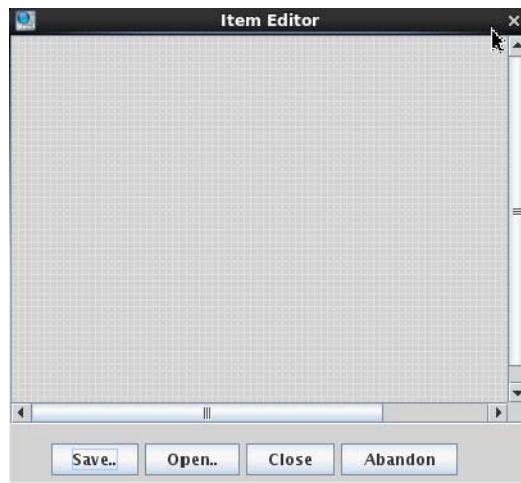

Figure 12 Item Editor window
- 3 In the Panel Editor window, click **Edit Items**. The Item Editor window appears. See Figure 12 on page 502.